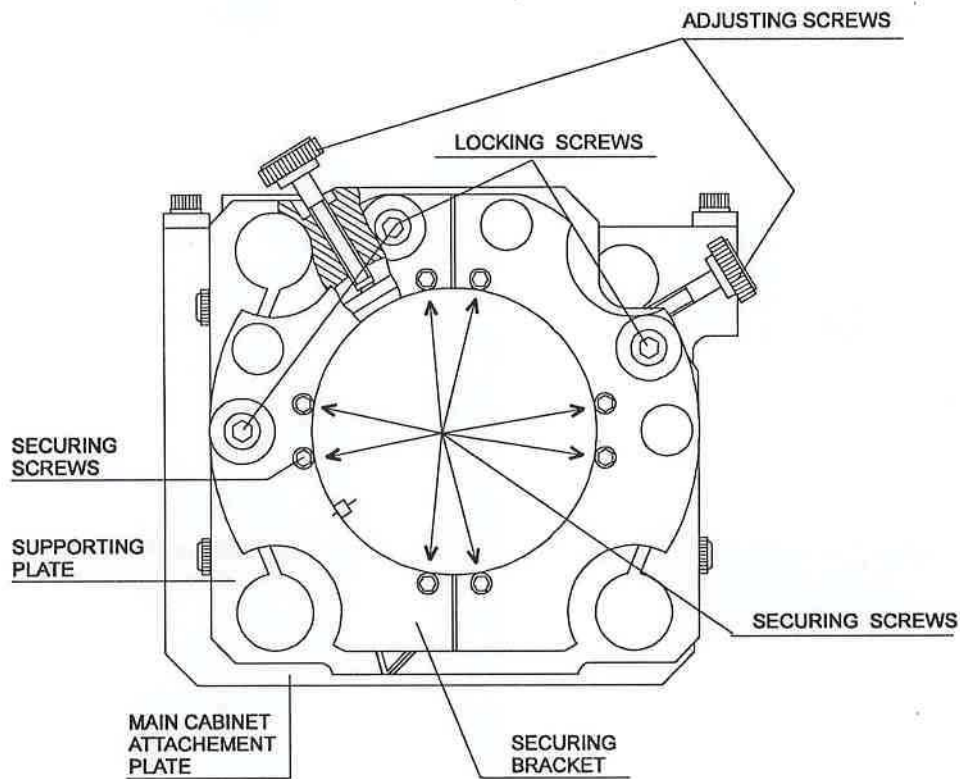

FIGURE 4-22A. CO2 LASER TUBE SUPPORTING PLATE - OLD DESIGN
3. Remove the eight CO2 laser rear securing screws and the three CO2 laser rear locking screws (with their discs). Loosen the three CO2 laser front locking screws (see Figure 4-22A).
8. Remove the eight CO2 laser front securing screws and the three CO2 laser front locking screw (with their discs). See Figure 4-22A.